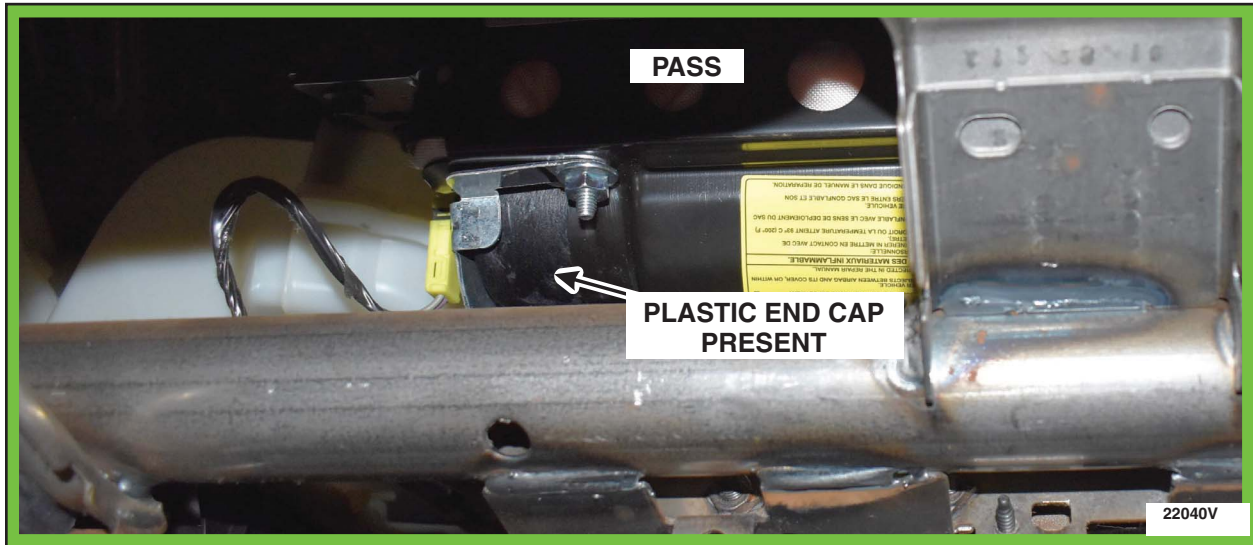

FIGURE 1
1. Fully lower the glove compartment door. Through the glove compartment opening, look up at the passenger airbag module. Inspect the passenger airbag inflator end for the presence of a plastic end cap as shown. See Figure 1. Are the plastic end caps present on the airbag inflator?
Yes: Inspection **PASS** See Figure 1. - No Repair Is Needed